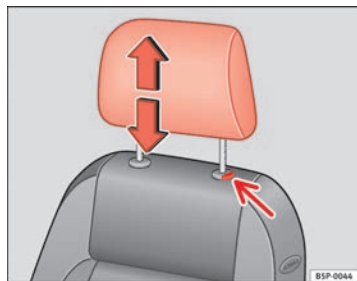

Fig. 69 Adjusting and removing the head restraints
- Press the button ⇒ fig. 69 (arrow).